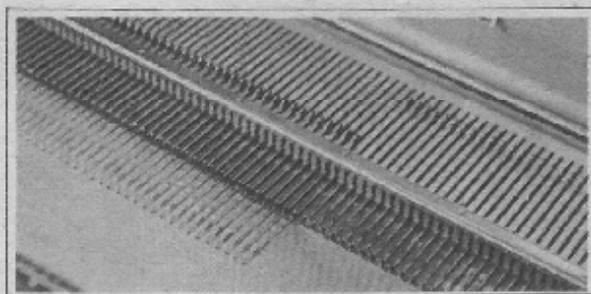

Fig. 1
1. With the flat side of the pattern plate (1x1), pull forward all the needles to "E" position on the left side of the center O mark. (Fig. 1)